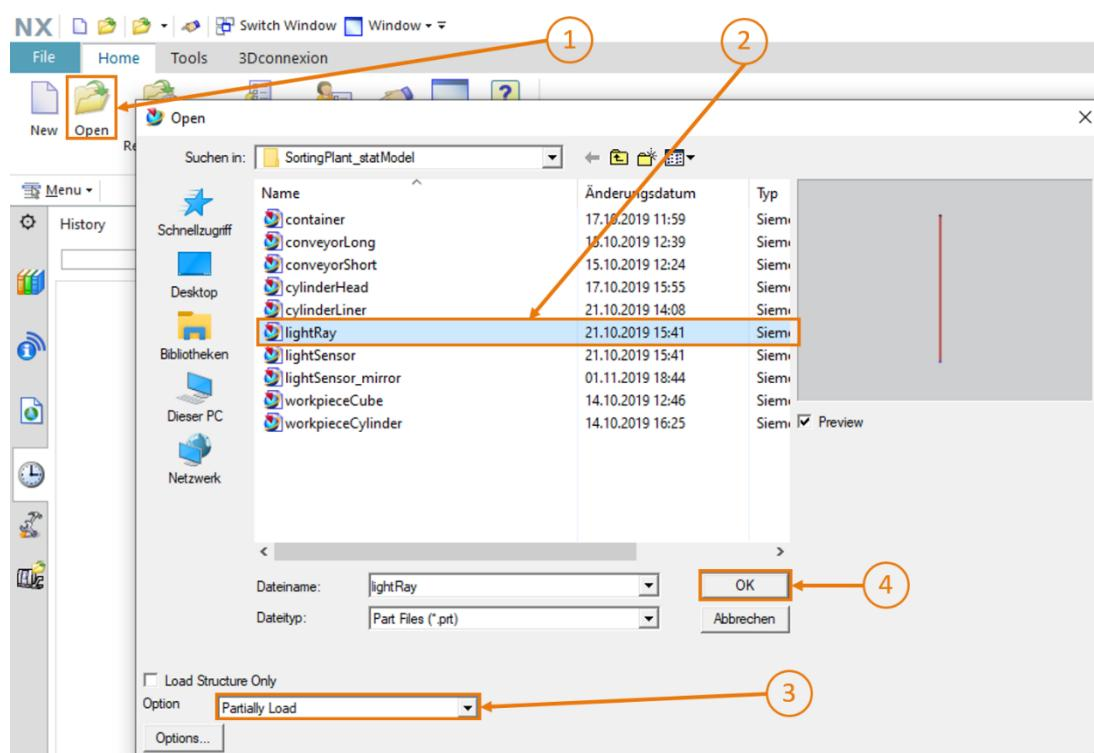

Figure 46: Opening the "lightRay" model in NX
- Open the light beam in NX. To do this, click the "Open" button in the "Home" menu bar (see Figure 46, step 1). Navigate to your working directory and select the "lightRay.prt" file containing your model of the light beam (see Figure 46, step 2). Be sure to select the "**Partially Load**" option so that only the model with the relevant drawings is opened (see Figure 46, step 3). Then confirm your selection with "OK" (see Figure 46, step 4).